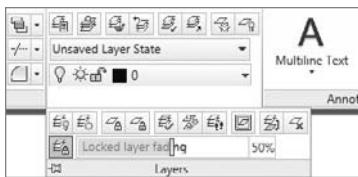

FIGURE 6.4 The expanded Layers panel
2. Expand the panel and you will see, as shown in Figure 6.4, that it contains several buttons, two drop-down lists, and a slider bar for controlling layers.